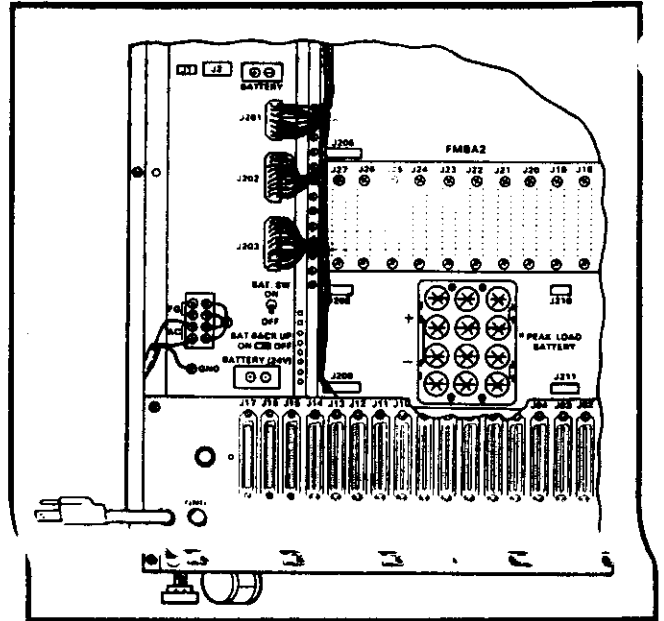

FIGURE 10—FPSA CABLES
- 6) Insert the end of the power cord through the grommetted AC line hole in the connector panel (grommet must be installed first). Connect the white and black leads to the AC terminals and the green (ground) lead to the GND screw on the FPSA (Figure 10).
- 12) Turn the power supply off and then connect J201, J202 and J203, respectively, as shown in Figure 10.
- 13) Set both the BAT. SW and the BAT BACKUP switches to OFF (Figure 10).